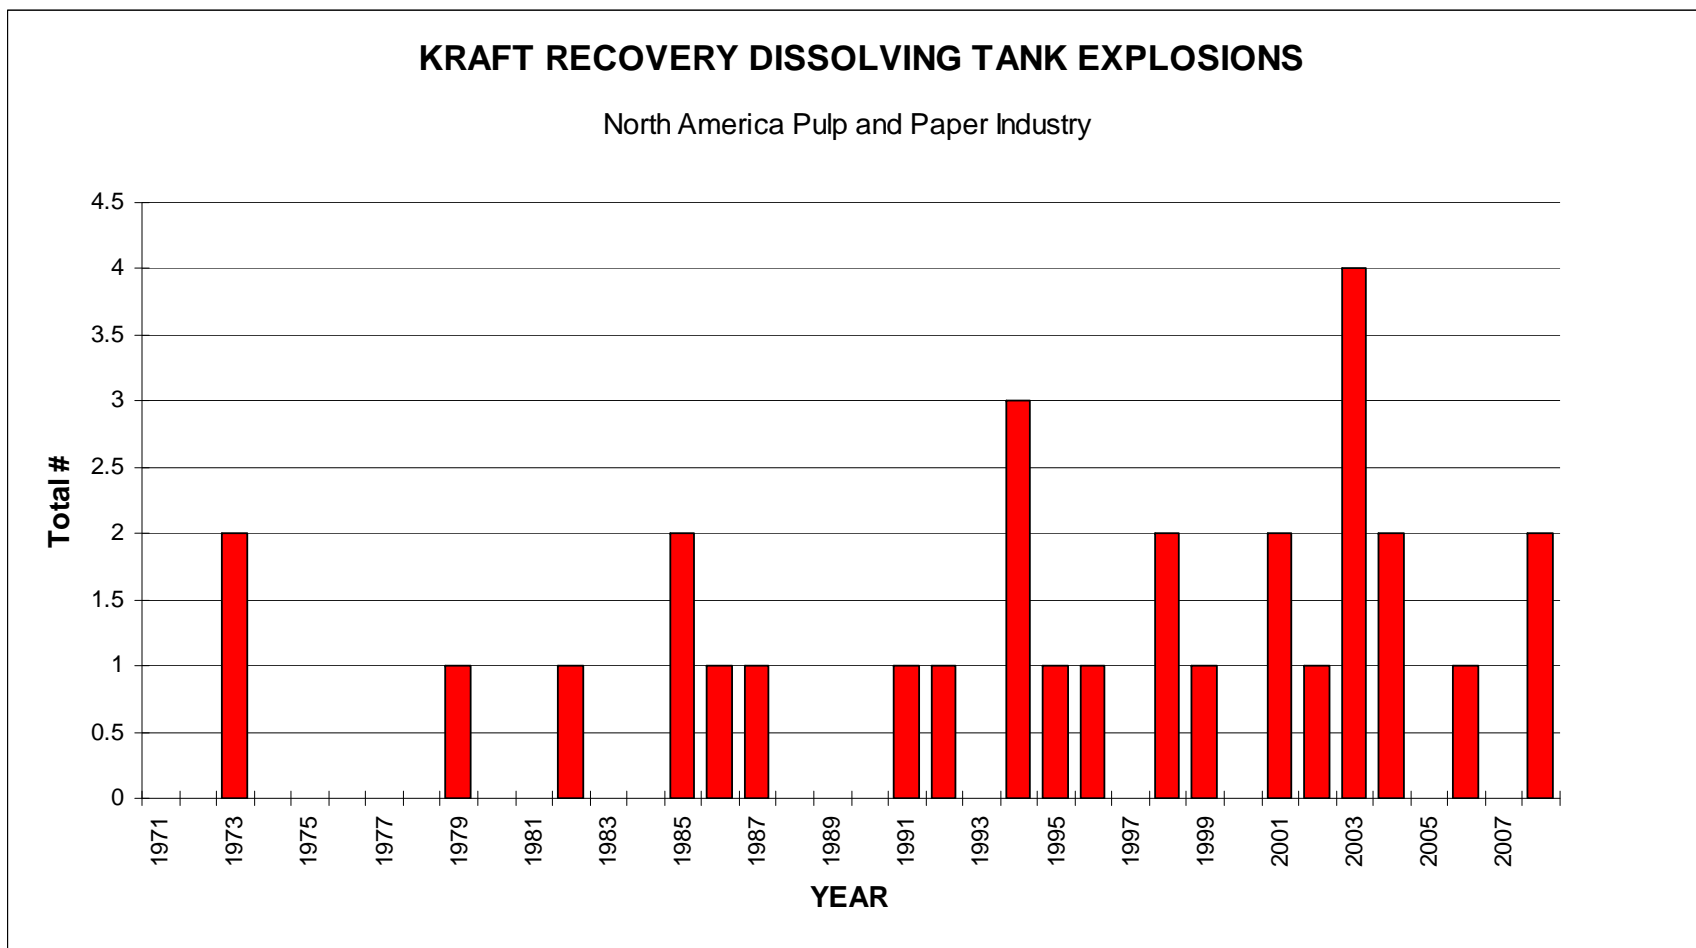

Figure 5
- Additional discussion on Figure 5, black liquor header and divert valve failure to be carried over to the Spring 2009 meeting
- Further discussion regarding Figure 5 – Failure of black liquor header valve and divert valve
Figure 5 shows the history of dissolving tank explosions and there were two reported this meeting. There were no incident reports for dissolving tank explosions submitted prior to 1973 and the incident rate appears to be increasing since that time although it may be that more dissolving tank incident reports are being submitted now where they may not have been reported previously. AF&PA has released their report of Dissolving Tank Explosions and several recommendations from that report are being considered by the Safe Firing of Black Liquor Subcommittee to be added into their document.